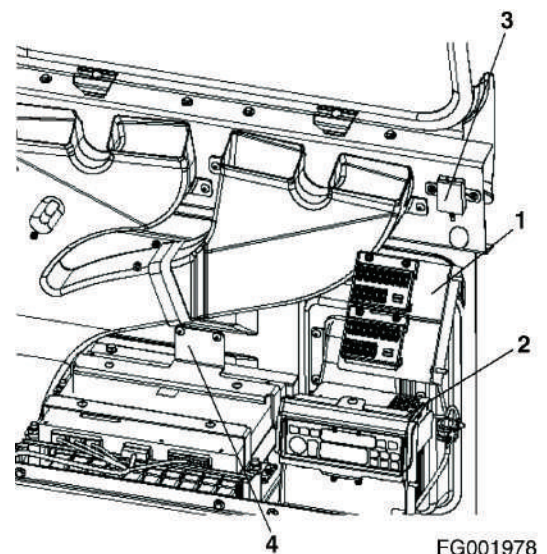

Figure 13
11. Install electric box (4, Figure 13).
12. Install cassette bracket (2, Figure 13) and connect antenna and speaker wire.
14. Install fuse box bracket (1, Figure 13) to left side wall of the cab.